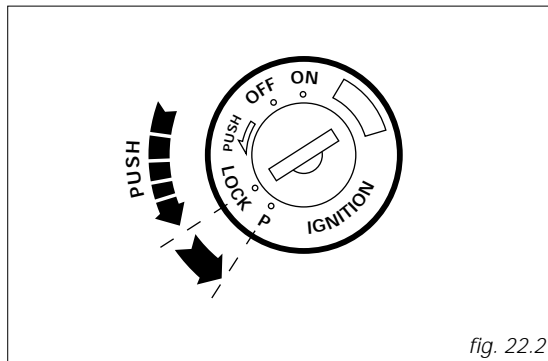

fig. 22.2
*To avoid theft, turn the handlebar fully left and block it by pushing in the ignition key and turning it to the **LOCK** position (fig. 22.2).*
*You may leave the parking lights on by turning the key to position **P** (fig. 22.2).*